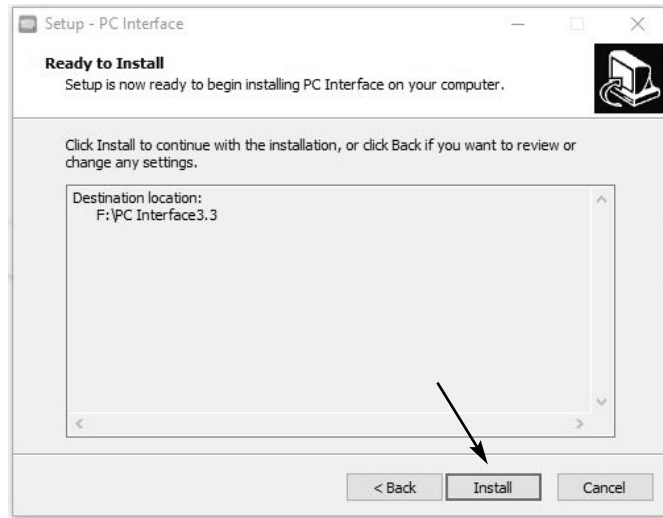

Figure 10-5. Verify and Install
7. Verify the installation set-up as shown in Figure 10-5. Select **Install**.